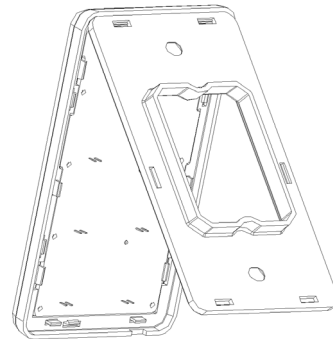

FIG. 6 ATTACHING THE FACEPLATE TO THE MOUNTING FRAME
6. Attach the faceplate to the mounting frame first at the top and swing it to the bottom. See FIG. 6.